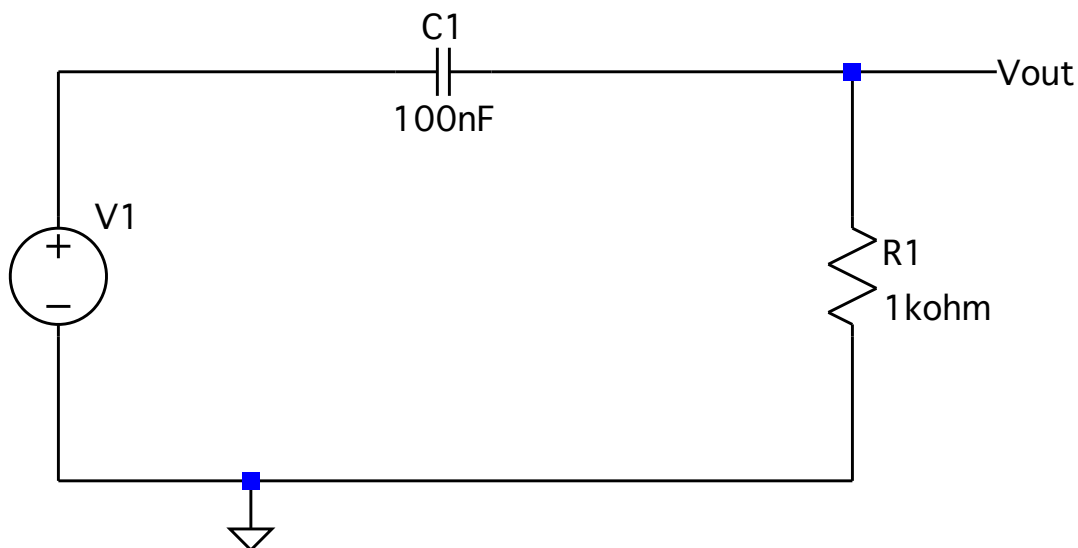

Figure 4 RC High Pass Filter Circuit
- Construct the filter shown in Figure 4. Assuming that the complex voltage ratio is